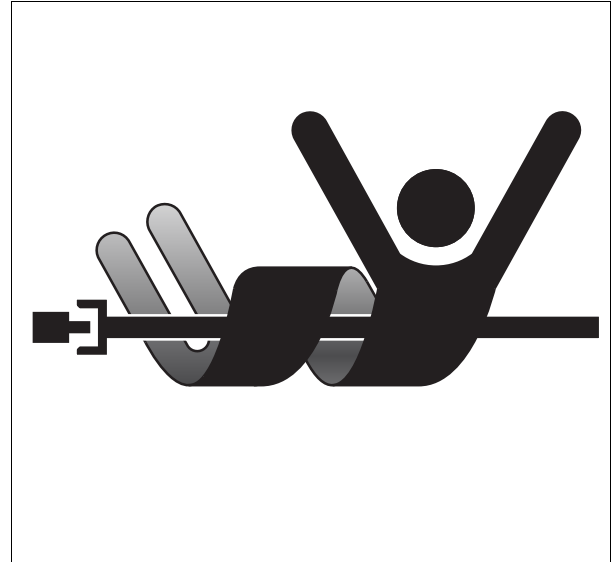

Fig. 6.
- Ensure that all the PTO shaft guards are in place and check the presence of all safety signs fig. 6.